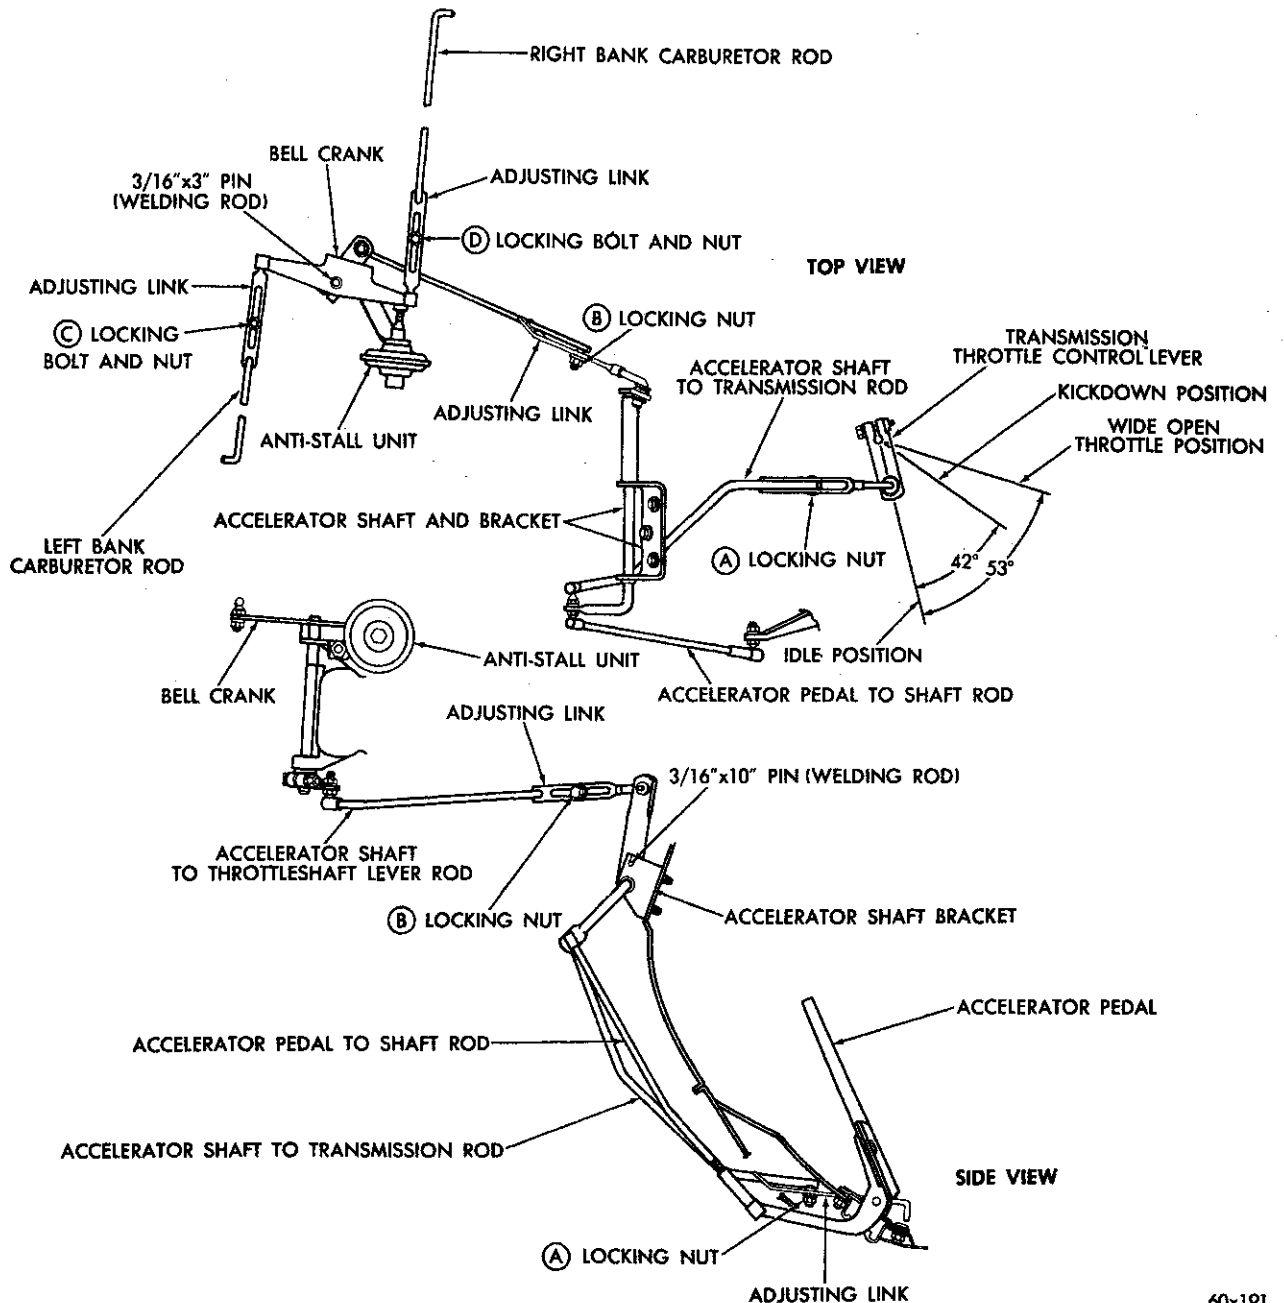

Fig. 15 Ram Manifold - Throttle Linkage (Schematic View)
A. Positioning the Accelerator Shaft (Fig. 15)
- (1) Loosen the adjusting nuts "A" and "B" (accelerator shaft to transmission rod and accelerator shaft to throttle shaft lever rod).
- (2) Insert a piece of 3/16 inch drill rod, 10 inches long into the accelerator shaft bracket and through hole in the lever.
- (3) Move the transmission throttle control lever forward until it stops. Tighten the locknut "A" securely. This positions the accelerator shaft.
(3) After correct measurement has been obtained, reconnect the rod. Remove the drill rod from the accelerator shaft bracket.
C. Setting the Bellcrank (Fig. 15)
(1) Loosen locking nuts "C" and "D" (left and right bank carburetor rods).
(2) Back off the anti-stall adjusting plunger far enough to allow the bellcrank to be pivoted.